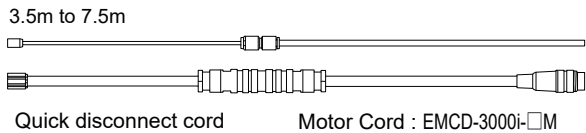

Fig. 17
- "Hose Length" indicates total hose length consisting of the Quick Disconnect Hose and Air Hose. See Fig. 17 and Table 2 to see how to calculate "Hose Length".
\*Note 1: "Hose Length" indicates total hose length consisting of the Quick Disconnect Hose and the Air Hose. See Fig.17 to see how to calculate "Hose Length".